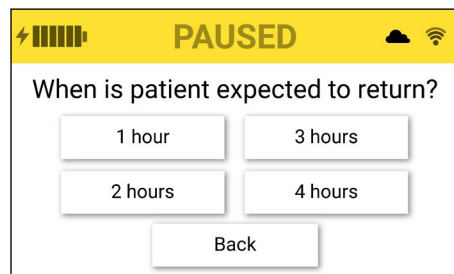

Figure 12. Off unit paused time selection screen
4. Select the desired timeframe based on when the patient is anticipated to return from the off-unit procedure. (Fig. 12)